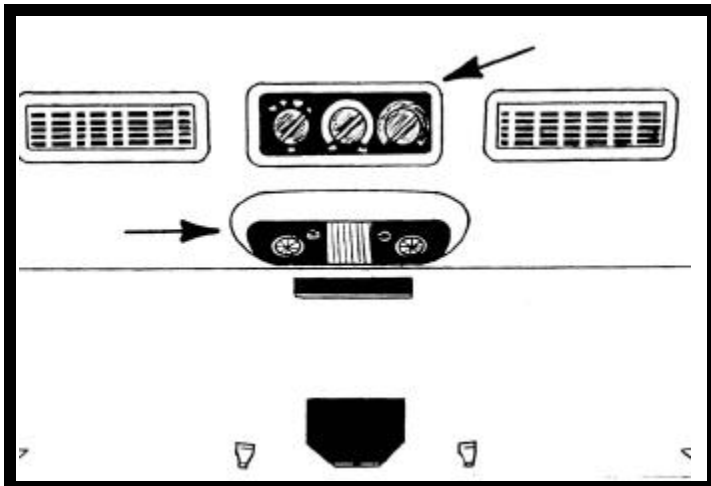

FIGURE 3
3. Remove and discard O.E.M. dome light by removing center cover and (2) two screws. Disconnect wire harness. See Figure 3.
4. Carefully remove and retain bezel from rear A/C control head and lay it in a safe place. See Fig. 3.
5. Remove and retain rear A/C control head and lay it in a safe place. See Figure 3.